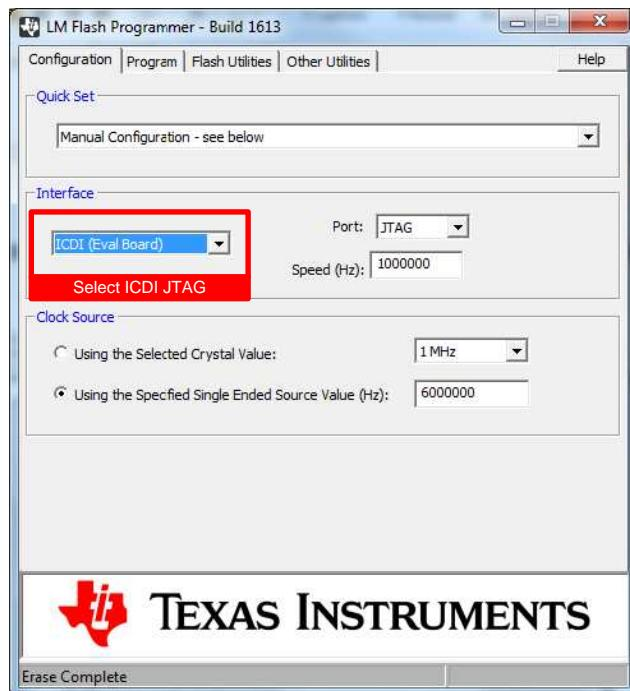
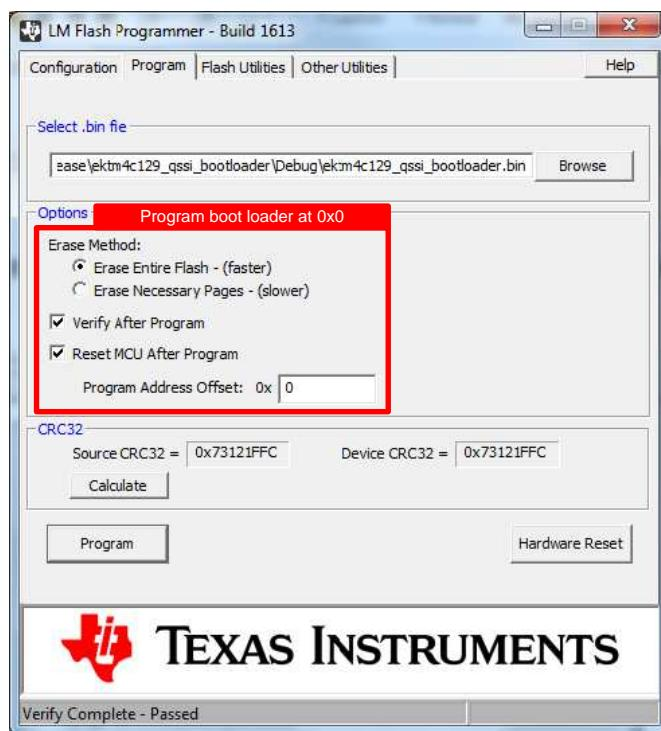

図 12. LM Flash Programmer Main Bootloader Programming - Interface Setting (JTAG)
図 13. LM Flash Programmer Main Bootloader Programming - Options Settings
4. Place jumper J1 on the FLASHCS side. Use the LM Flash programmer to download ektm4c129_qssi_bootloader to an TM4C1294NCPDT Connected LaunchPad kit that has been erased. After performing checks for QSSI and SDRAM memory, the bootloader activates UART0 to download an image to the external QSSI flash. For the setting of the LM flash programmer, see 図 12 and 図 13.)